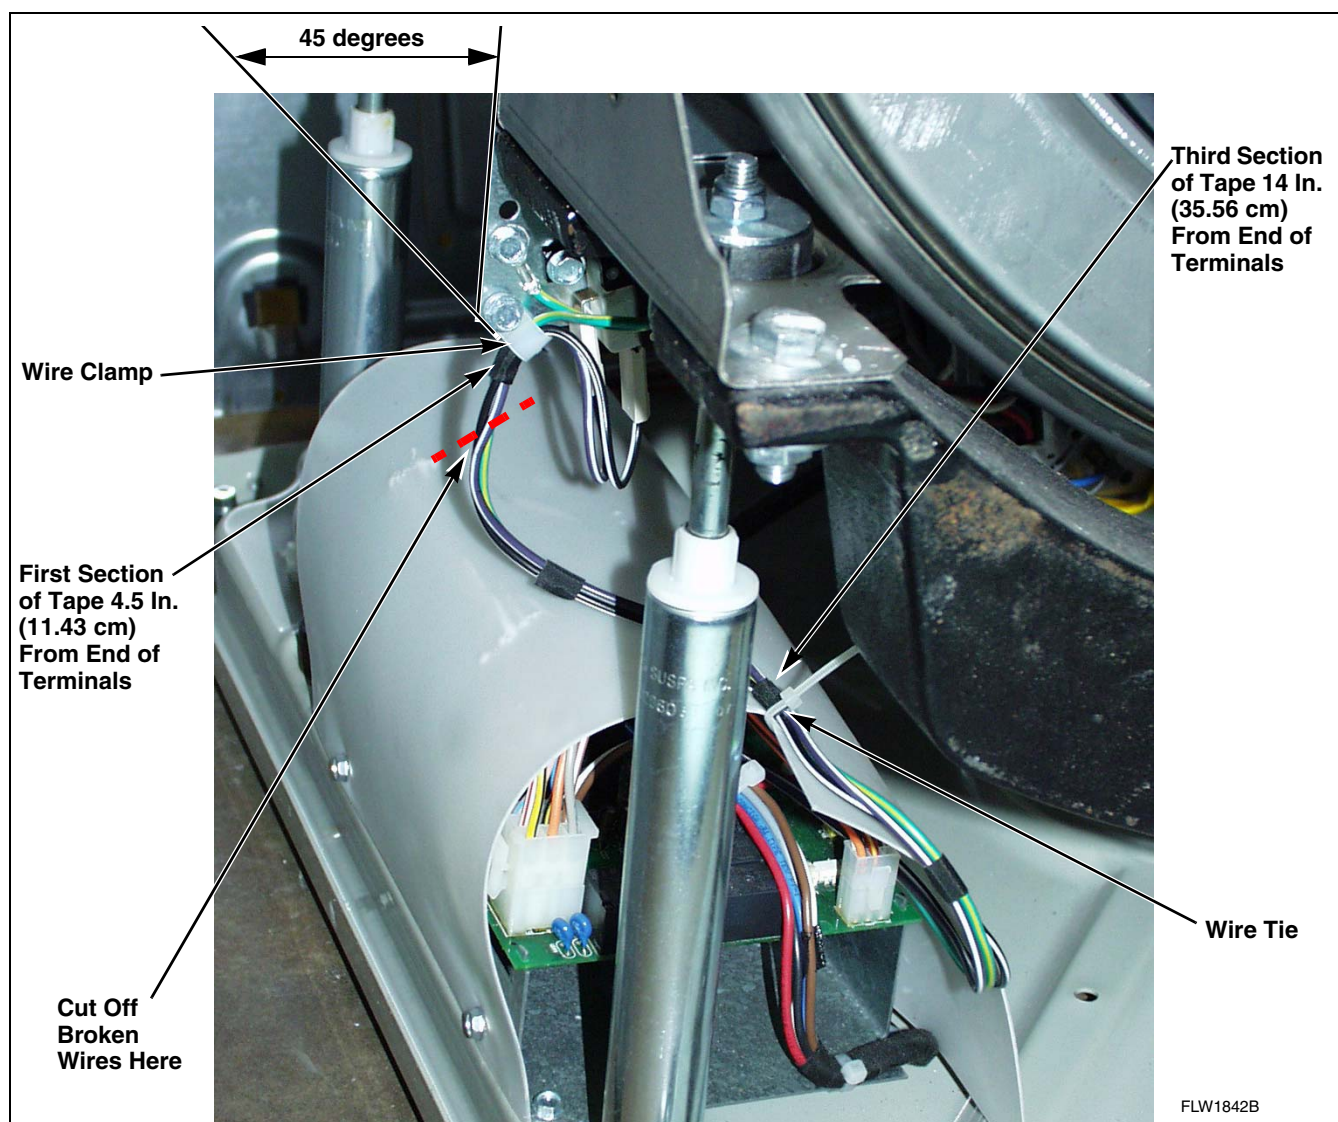

Figure 1
If broken wires are found at the out-of-balance switch wire support, cut off portion of wires as shown in *Figure 1* and add new UL approved terminals.
- e. After replacing or repairing the wire harness, wrap electrical tape around wires in two locations as indicated below and in *Figure 1*. Then secure the harness wires to the original factory locations using clamp and wire tie. Refer to *Figure 1*.
- (1) The plastic wire clamp should be angled toward the switch at 45 degrees.
- (2) The clamp should wrap around the first section of tape on the harness, which should be placed approximately 4.5 inches (11.43 cm) from end of terminals.
- (3) The harness should be secured to the inverter control shield with a wire tie.
- (4) The tie should wrap around the third section of tape on the harness, which should be placed approximately 14 inches (35.56 cm) from end of terminals. Refer to *Figure 1*.